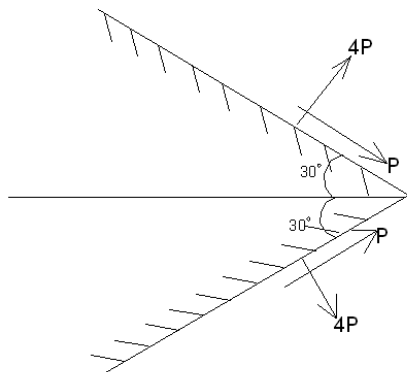

fig 4.2
2. The magnitude and direction of the stresses on two planes intersecting at a point area shown in figure 4.2. Determine the direction and magnitude of the principal stresses at this point. Sketch the result on an element. (Ans : 5.154P)